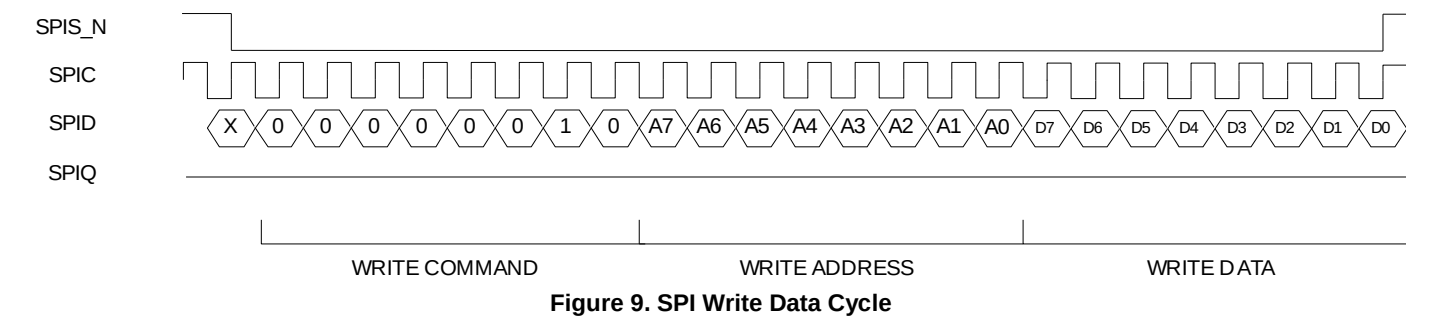
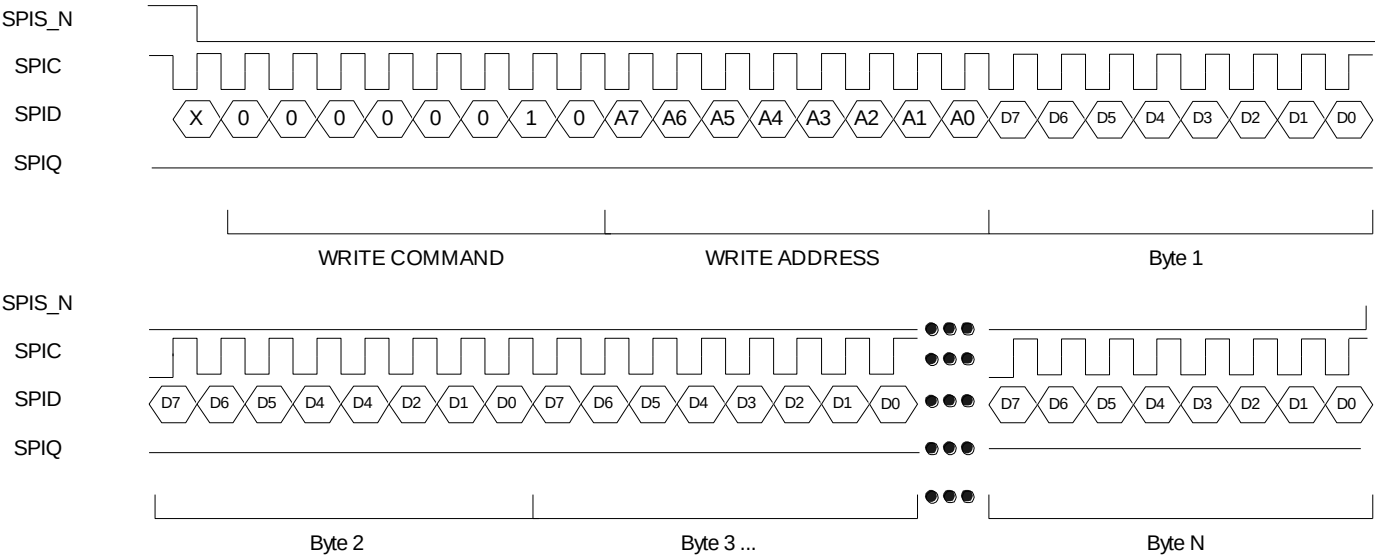

Figure 9. SPI Write Data Cycle
Figure 11. SPI Multiple Write
- Write configuration to registers using a typical SPI write data cycle as shown in Figure 9 or SPI multiple write as shown in Figure 11. Note that data input on SPID is registered on the rising edge of SPIC.